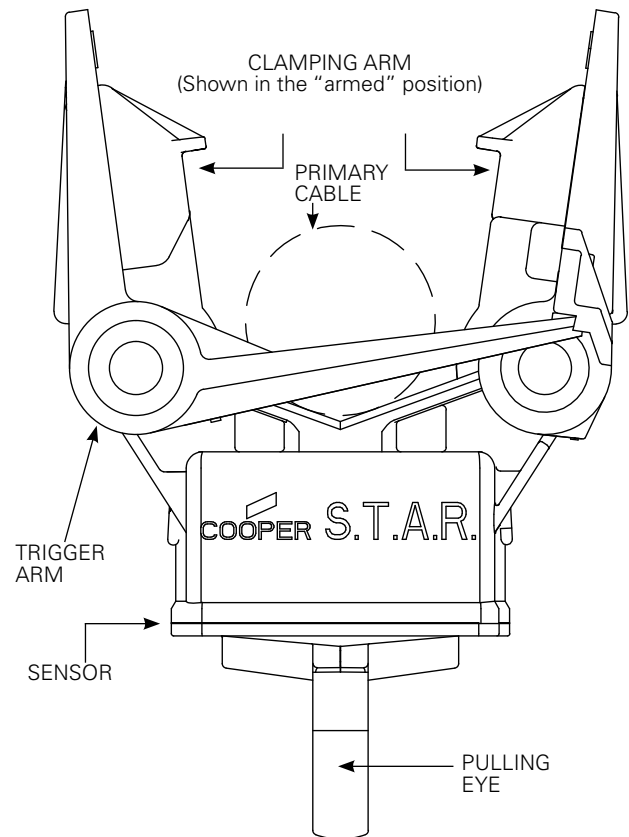
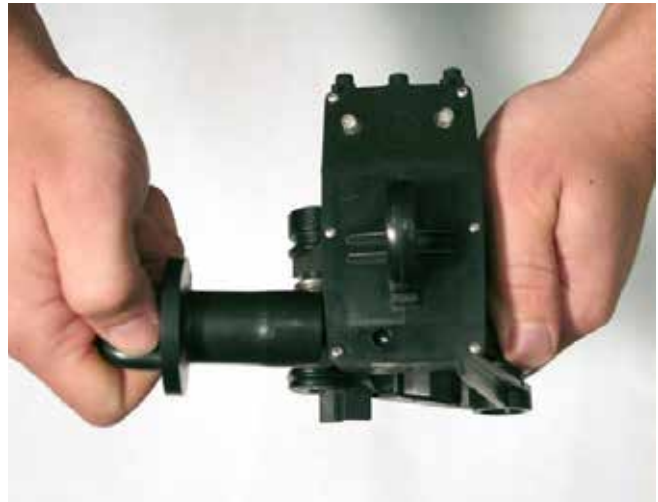

Figure 1. S.T.A.R. SDOH Faulted Circuit Indicator.
Figure 2. Reset and status check location for the SDOH FCI.
1. Arm the SDOH FCI clamp mechanism by grasping each clamping arm (Figure 2), pulling them apart until the trigger arm latches into place. Stops have been built into the clamping arms such that they will only open to the point where the trigger arm will latch (Figure 1).
2. Touch the magnetic end of the reset tool to the side of the fault indicator in the upper right corner at the location of the "R" for two (2) seconds. See Figure 2.
3. Remove the reset tool from the side of the fault indicator. The unit will flash back the number of reset hours per Table 1. Confirmation is flashed three (3) times, then a rapid green/red flash to indicate ready for installation and positive indication of battery operation.